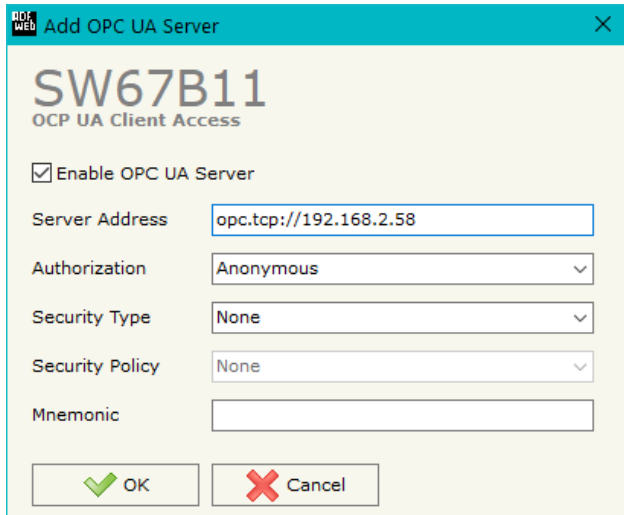
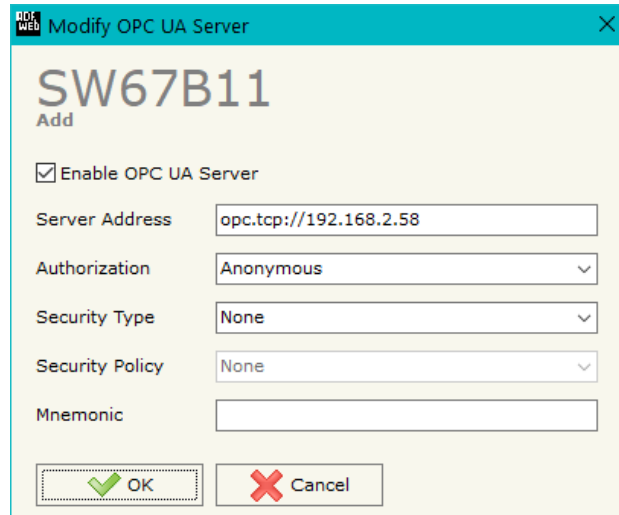

Figure 5: "Add OPC UA Server"
Figure 6: "Modify OPC UA Server"
By clicking on **"Add"**, it is possible to add a new OPC UA Server inserting its characteristics (Server Address, Authorization, Security Type...). The window "Add OPC UA Server" appears (Fig. 5). By clicking on **"Modify"**, it is possible to change these characteristics for the selected Server. The window "Modify OPC UA Server" appears (Fig. 6).
By Pressing the “**Set BACnet Access**” button from the main window for SW67938 (Fig. 2) the window “BACnet Set Access” appears (Fig. 5).
- In the field “**Eng. Unit**”, with double click the window “*Select the BACnet Engineering Unit*” appears (Fig. 6);